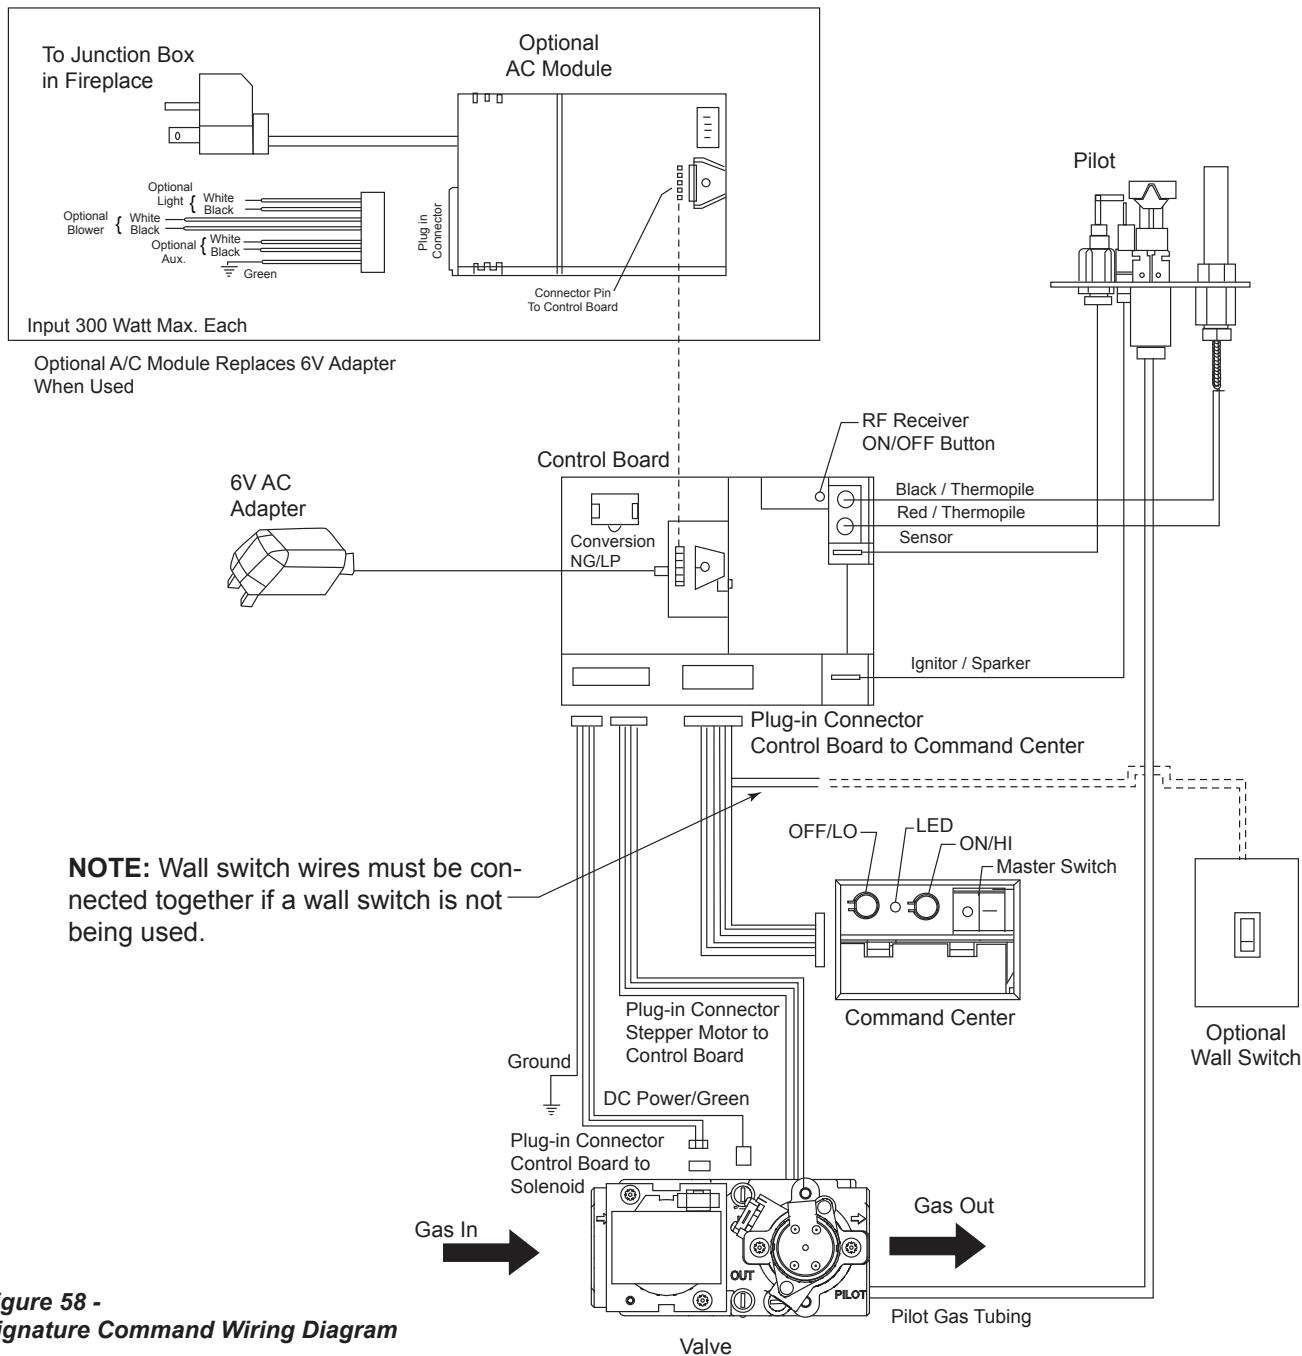

Figure 58 -
The wall switch wire connection is located off the 2 ft. wire harness from the control box to the command center. *Figure 58*. The connection is labeled "Wall Switch". Unplug the male and female connectors and connect the two (2) low voltage wires provided. Run wire to desired location on wall. Up to 50 ft. of 18 ga. wire may be used if necessary. Attach wires to wall switch. Mount the wall switch in to junction box and screw on cover.